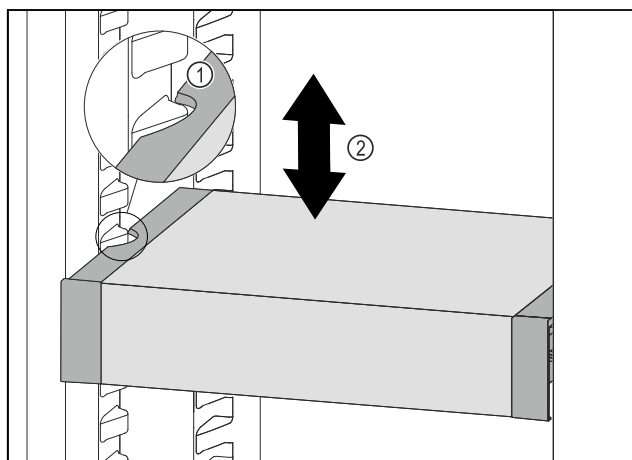

Fig. 118
- Pull VarioSafe forwards until the recesses in the side of the VarioSafe are at the level of the support rib in the refrigerator compartment. *Fig. 118 (1)*
- Move VarioSafe up or down in the refrigerator compartment until the desired height is reached. *Fig. 118 (2)*